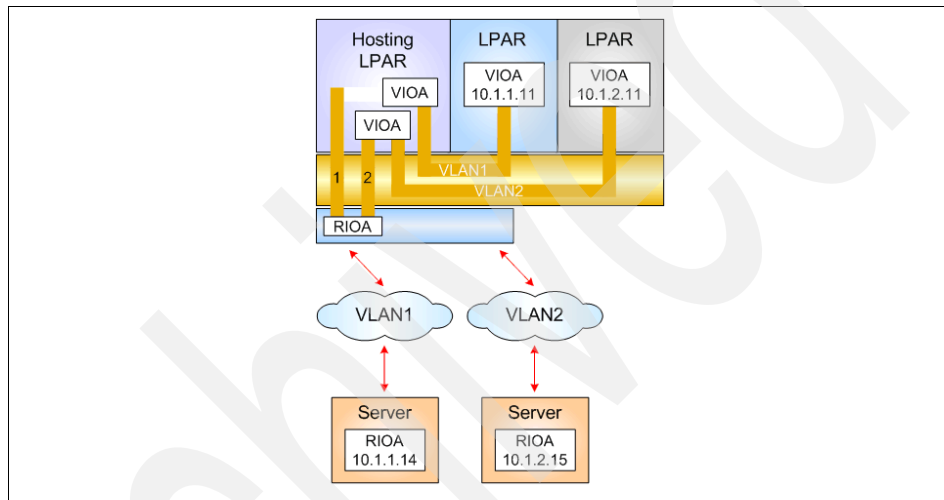
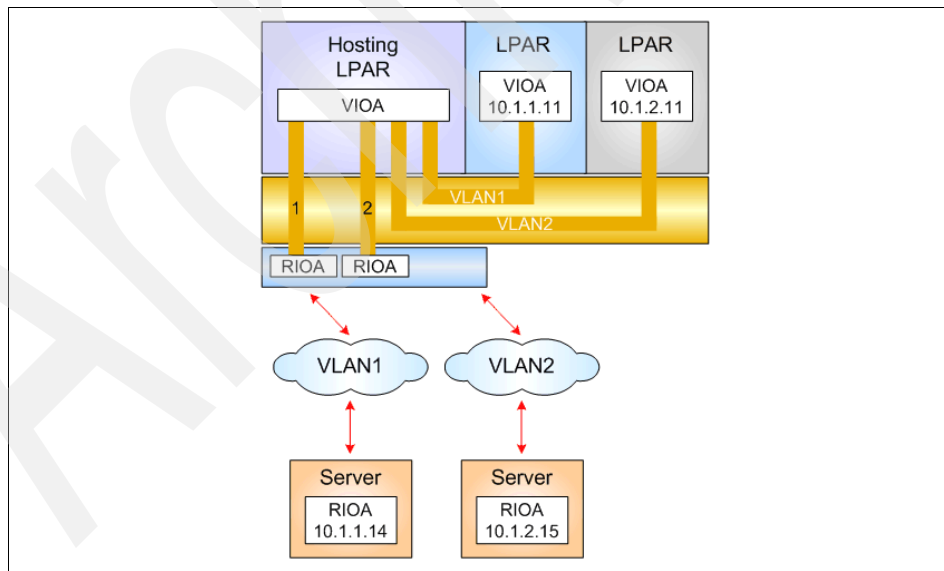

Figure 3-8 Shared Ethernet Adapter configuration
Figure 3-9 Multiple Shared Ethernet Adapter configuration
In order to bridge network traffic between the virtual Ethernet and external networks, the Virtual I/O Server has to be configured with at least one physical Ethernet adapter. One Shared Ethernet Adapter can be shared by multiple VLANs and multiple subnets can connect using a single adapter on the Virtual I/O Server. Figure 3-8 shows a configuration example. A Shared Ethernet Adapter can include up to 16 virtual Ethernet adapters that share the physical access.
In Figure 3-8 and Figure 3-9 on page 76, the acronym RIOA means real I/O adapter, and VIOA means the virtual I/O adapter.
- ▶ Using several Shared Ethernet Adapters provides more queues and more performance. An example for this configuration is shown in Figure 3-9.